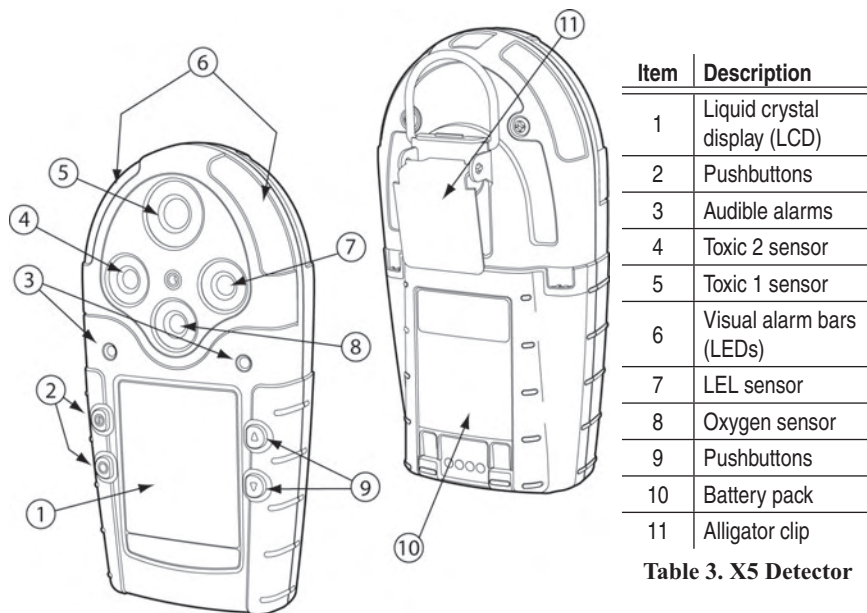

Figure 1. X5 Detector
- Figure 1 and Table 3 describes the detector components